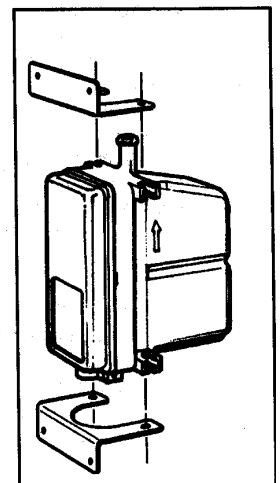

Figure 7 - 2 Bracket Configuration Options
- 1.2.2 The heater has a unique multi-point mounting system that accommodates different applications as shown in Figure 7. Select a mounting surface that is smooth and free of fasteners or obstructions. Secure the heater in the selected location using the bolts, nuts, and lock washers provided. Tighten the fasteners to 10-12 ft-lbs.